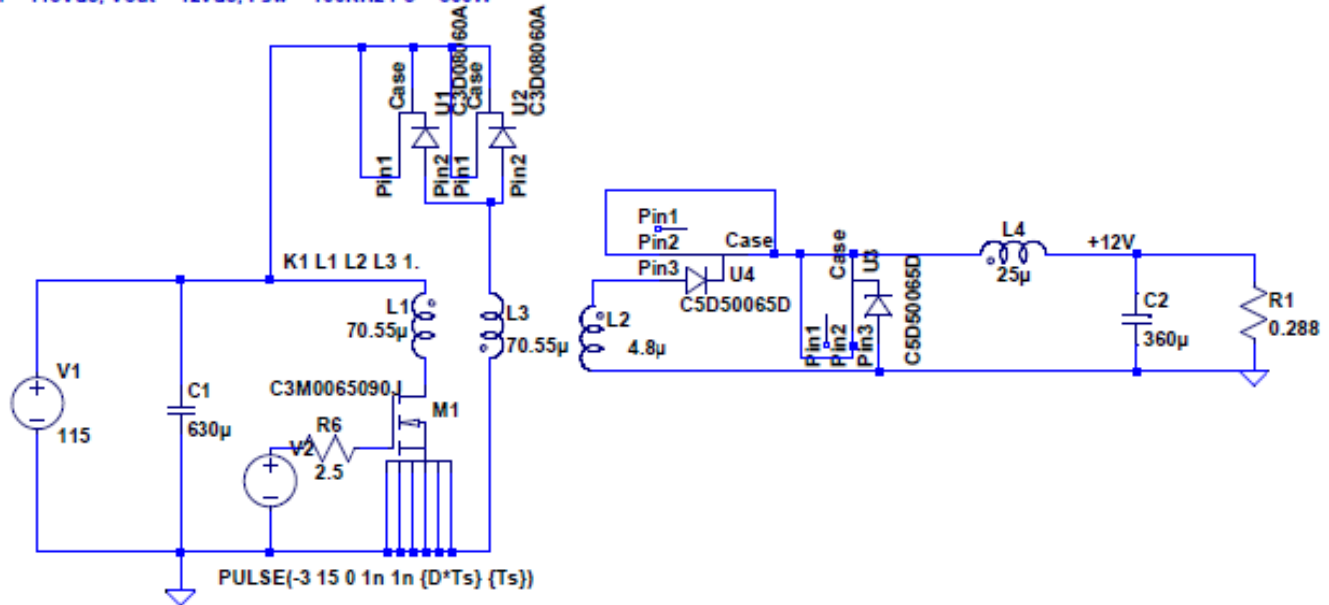

Figure 1: 500W Forward converter model circuit
- The model will be similar to the one shown in figure 1.